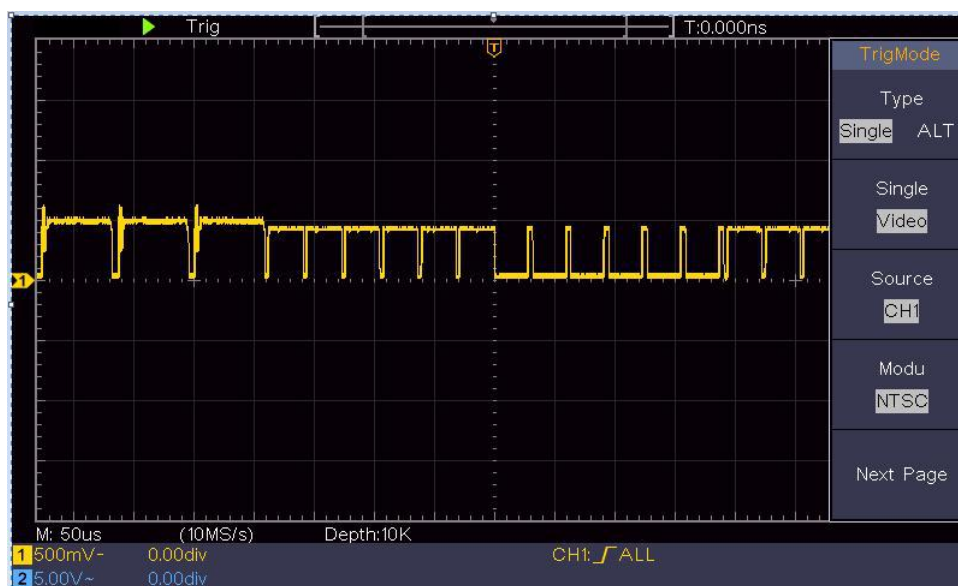

Figure 7-7 Waveform Captured from Video Field Trigger
- (1) Push the **Trigger Menu** button to display the right menu.
- (2) In the right menu, select **Type** as **Single**.
- (3) In the right menu, select **Single** as **Video**.
- (4) In the right menu, select **Source** as **CH1**.
- (5) In the right menu, select **Modu** as **NTSC**.
- (6) In the right menu, press **Next Page**, select **Sync** as **Field**.
- (7) Turn the **Vertical Scale**, **Vertical Position** and **Horizontal Scale** knobs to obtain a proper waveform display (see *Figure 7-7*).